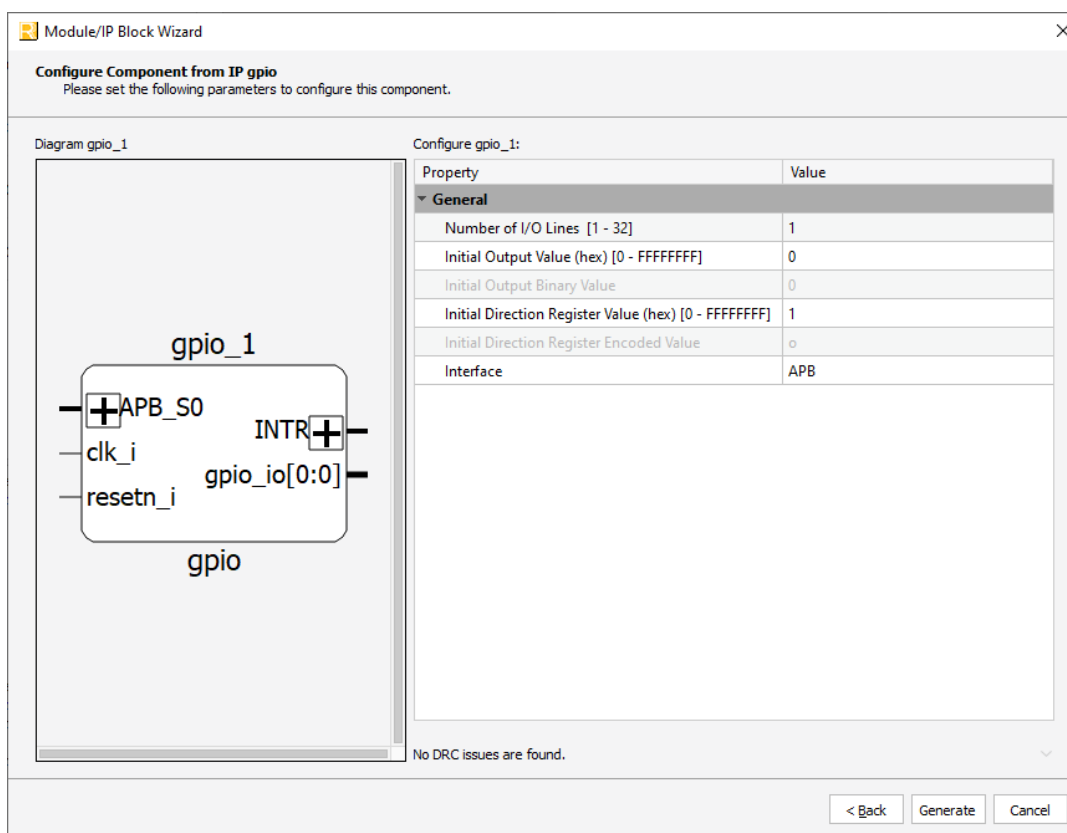

Figure 3.1. Configure Block of GPIO Module
3. Configure the GPIO module according to custom specifications using drop-down menus and check boxes. A sample configuration is shown in Figure 3.1. For configuration options, see Table 2.2.
4. Configure the GPIO module according to custom specifications, using drop-down menus and check boxes. A sample configuration is shown in Figure 3.1. For configuration options, see Table 2.2.